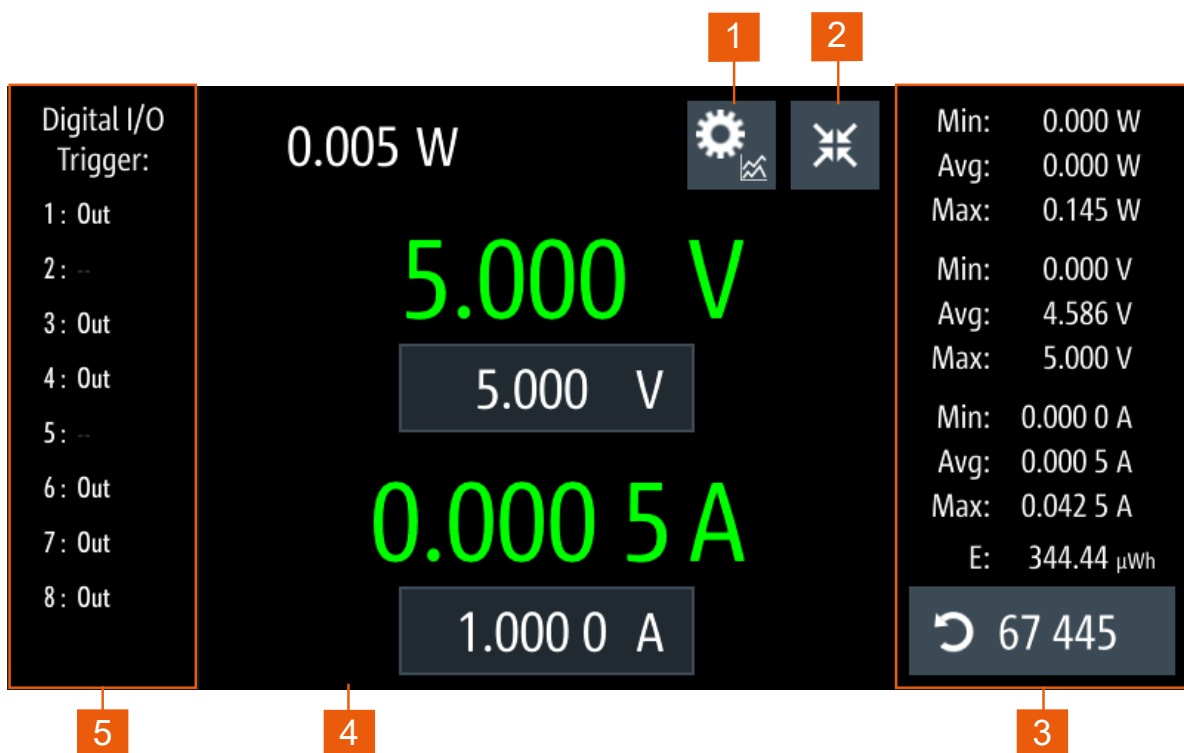

Figure 7-4: Detailed channel display window
The "Expand/Collapse" softkey,  opens/closes the detailed channel display window which provides additional information, such as the channel historical information and the optional digital I/O trigger configuration. See Figure 7-4.
- 2 = "Expand/Collapse" softkey toggles between home window and the detailed channel display area window, see Figure 7-4